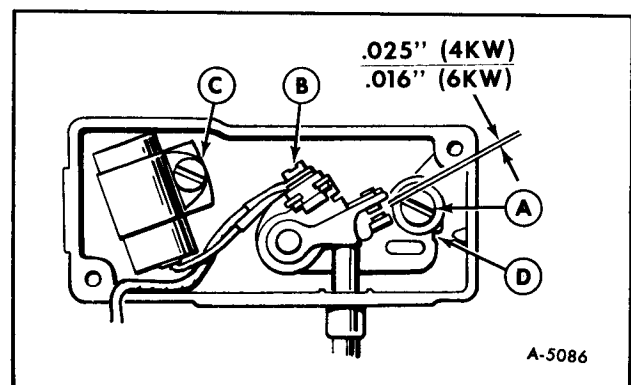

Figure 39—Breaker Point Adjustments
3. Refer to Figure 39, remove mounting nut (A) and pull the points out of the box just far enough so screw (B) can be removed and leads disconnected.
4. Remove screw (C) and replace condenser with a new one.
5. Replace points with a new set but do not completely tighten mounting nut (A).
8. Using a screwdriver inserted in notch (D) on the right side of points, turn points until gap measures .025" (.016" on 6KW) with a flat thickness gauge. (Be sure feeler is clean.) Tighten mounting screw and recheck gap. Timing is automatically set.